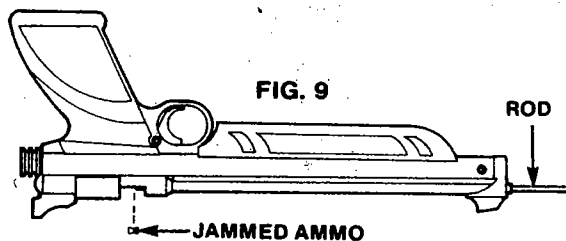

FIG. 9
- barrel, push the jammed pellet or BB into the breech and remove it from the breech. (Fig. 9). Don't try to reuse that pellet or BB again.